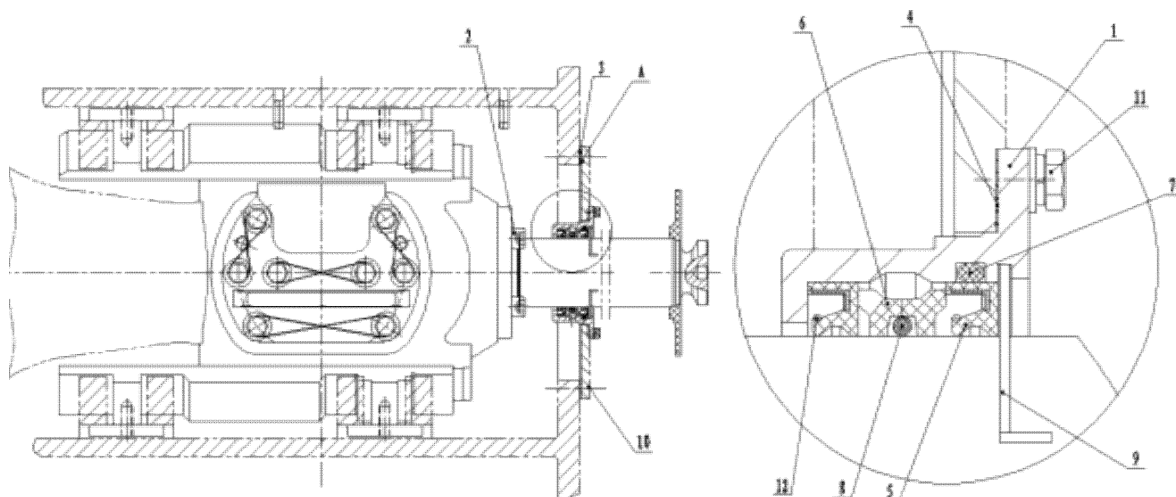

Fig. 5 Packing box seal installation
- (1) Packing box (2) Bolt (3) Spacer (4) Gasket (5) Double-Lips oil seal (6) Oil seal ring
(7) O-ring (8) O-ring (9) Locking spring (10) Bolt (11) Bolt (12) Spring
As the Fig. 5 shown, remove the packing box (1), rotate the pump manually to make the crosshead is in the frontend of the stroke. Thoroughly clean the forepart of crosshead and the end surface of the pony rod, and then mount the positioning boss of the pony rod to the hole of crosshead. Tighten the bolt (2) with the torque of 566N.m(415lbf. ft),and then lock up with iron wire. Thoroughly clean the end surface between fender plate and rack, mount sealing gasket (3) (Fig.5 - "A") and bolt (10), screw the bolt with torque of 68N•m (50lbf•ft).
1) Remove the spring (12) from the double lipped oil seal (5), mount the oil seal to the external of the pony rod. The main lip is towards to the power end, and then the spring (12) is mounted to the oil seal lip, push them to the packing box. Refer to the Notes below.
2) Install O-ring (8) into the sealing ring (6) and install it on the bar and then install it inside the hole of packing box.
3) Install O-ring (7) into the slot of packing box.
4) Install the double lipped oil seal (5) in Fig. 5. The method is the same as step 1).
1) Take off the packing box (1) from the rack. Pack the double lipped oil seal (5), sealing ring (6) and O-ring (7), O-ring (8) and locking spring (9) in the packing box (1) according to the partial enlarged drawing in Fig. 5, and then cover the gasket (4) in the outer cylindrical surface of the packing box (1).